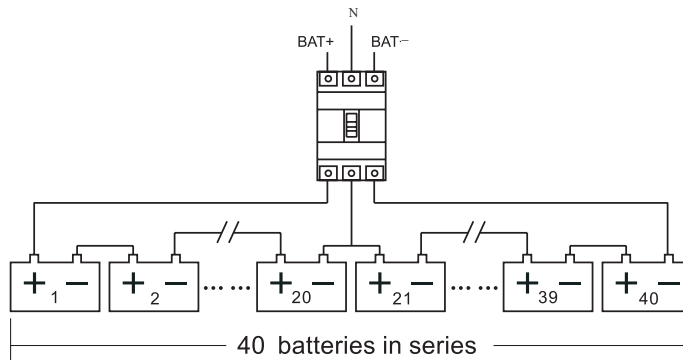

Fig. 5-2 Sketch map of Battery connected
2. One battery pack of the UPS consists of 32-40 batteries in series, 40PCS configuration is illustrated as an example in Fig. 5-2. which is divided into two parts by a neutral wire connecting to the middle of the pack (where the No. 20 and No. 21 batteries are connected). Therefore there are altogether three wires connected with the UPS terminal blocks including the positive and negative wires of the battery pack. The battery cables should connect to a DC breaker firstly and then it can be connected to the terminal block of the UPS. Please refer to the following wire connection diagram for detailed information.